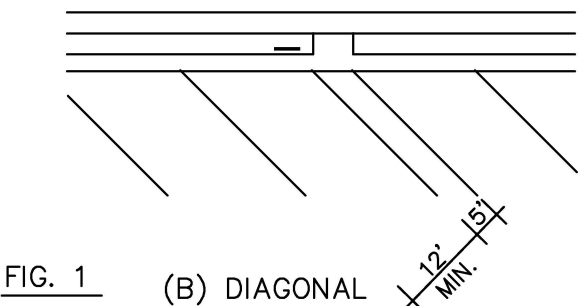

FIG. 1 (B) DIAGONAL
2. DIAGONAL OR PERPENDICULAR PARKING SPACES SHALL BE A MINIMUM OF 12 FEET WIDE (SEE FIGURE 1).